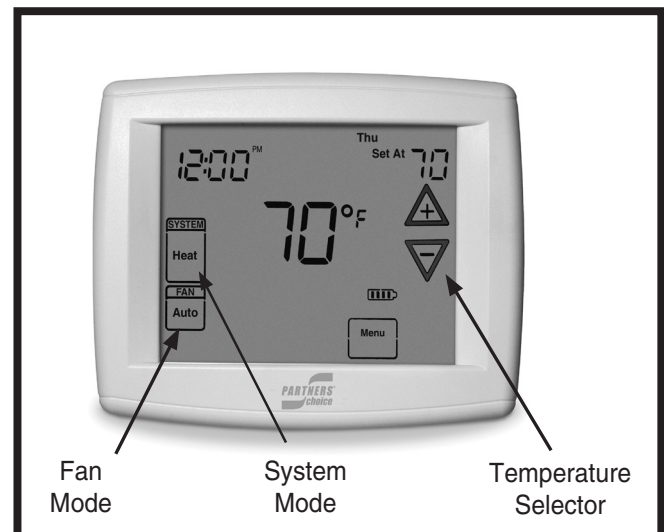

Figure 1. Digital Thermostat
1. Set the thermostat's system mode to COOL or AUTO and change the fan mode to AUTO. See Figure 1.
1. Set the thermostat's system mode to HEAT or AUTO and change the fan mode to AUTO. See Figure 1.
1. Set the thermostat system mode to AUTO and the thermostat fan mode to AUTO. See Figure 1.
The continuous indoor blower operation is typically used to circulate the indoor air to equalize a temperature unbalance due to solar loads, increased occupancy loads, or mechanical equipment operation. Set the thermostat fan mode to ON (Figure 1). The indoor blower starts immediately, and will run continually until the fan mode is reset to AUTO.
Change the thermostat's system mode to OFF and the fan mode to AUTO (See Figure 1). NOTE: The system will not operate, regardless of the temperature selector setting.